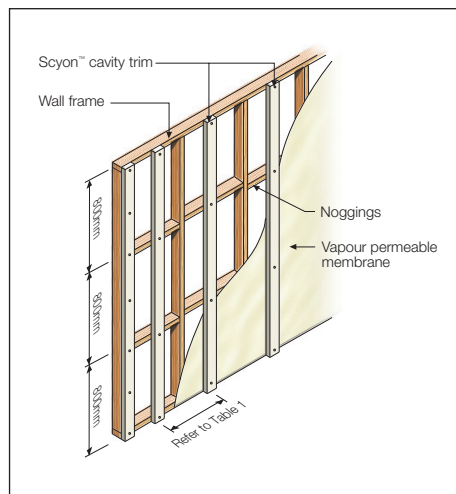

FIGURE 5 OFF-STUD FIXING
Alternatively, for the off-stud installation method, noggings must be installed at 800mm maximum centres, see Figure 5. The noggings must be aligned with the exterior plane of the frame to ensure that a flush surface is provided to accommodate the installation of the Scyon cavity trim. Off stud fixing is not suitable in high wind loads, see Table 1. This table specifies the maximum stud spacings for Scyon Matrix cladding for Australian wind load classifications of AS 4055 'Wind Loads for Housing'.
The Scyon cavity trim can be installed off-stud over the vapour permeable membrane. It is important that horizontal supports (noggings) are installed at a maximum of 800mm vertical centres. A specified fastener is fixed at the intersection of every support, see Figure 5. For Scyon cavity trim and stud spacings, refer to Table 1.
* In the case of fixing the cavity trim off stud, the fastener spacing will be at each support i.e. a maximum of 800mm centres, see Figure 5.